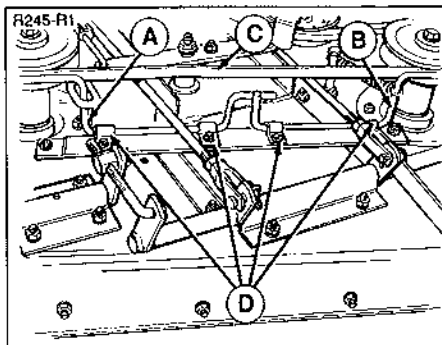

Figure 34.
Inspect the mower deck with the mower attached and PTO rod released. The blade brake rods (A & B, figure 34) should firmly contact the belt (C) at the rear of the right and left arbor pulleys. There should be a slight clearance between the two brake rods in the center. The right brake rod (B) should be slightly closer ($1/16'' - 1/8''$) to belt than the left hand brake rod (A) with the PTO rod released.